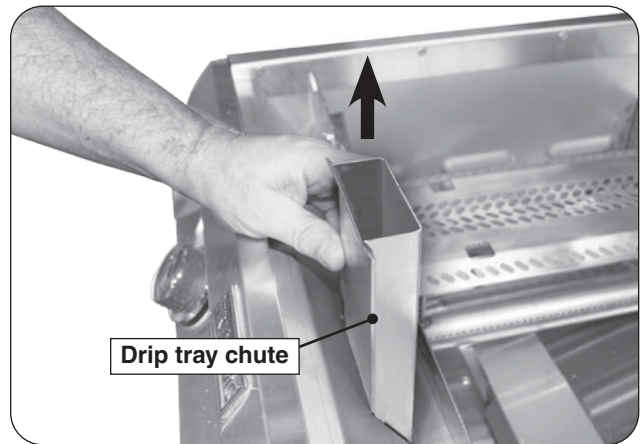

Fig. 28-2 Drip tray chute removal
2. Remove the drip tray chute by pulling it upward (see Fig. 28-2).